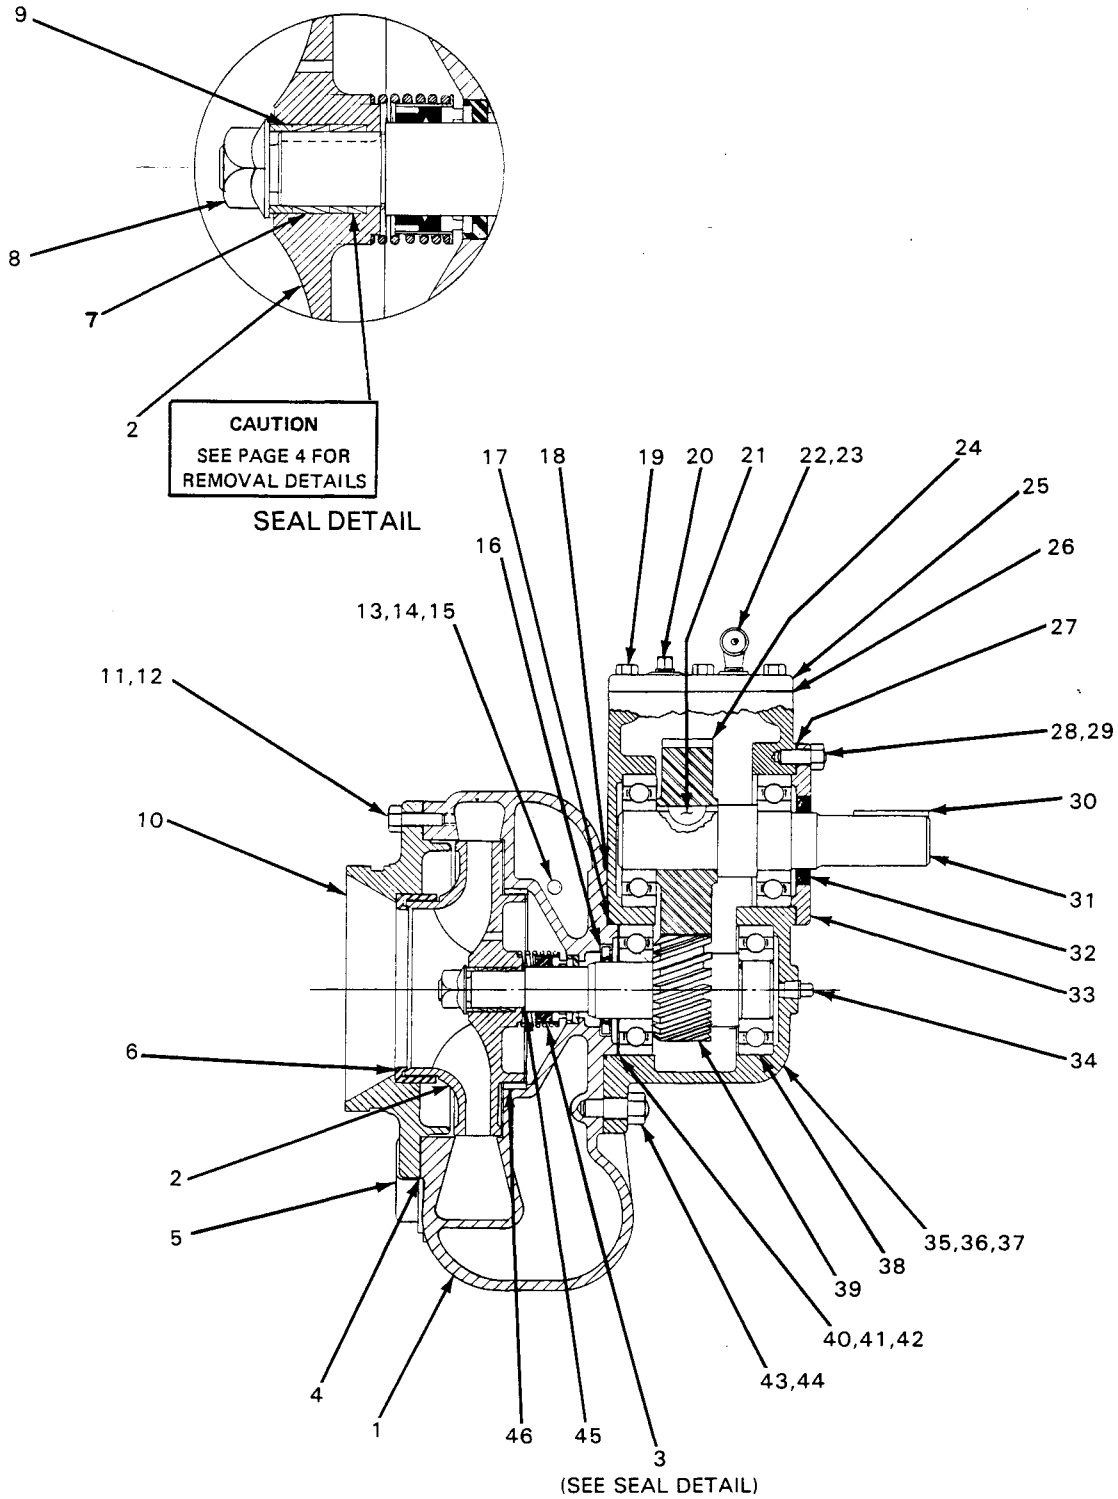

Figure 1. Pump Model 06C15-GA
This pump requires little service due to its rugged, minimum-maintenance design. If it becomes necessary to inspect or replace components, however, follow these instructions, which are keyed to the sectional view (see figure 1) and the accompanying parts list.
Reinstall the drive shaft bearing in the gearbox housing. Reinstall the drive gear key, and position the drive gear so that it engages the pinion shaft gear. Install the drive shaft and bearing. Inspect the oil seal (32) and replace as necessary. Reinstall the oil seal in the bearing cap, positioning the lip as shown in figure 1, replace the bearing cap gasket (27), and secure the bearing cap to the gearbox housing.
Replace the bearing shims. After final reassembly, shaft end play should fall between .005 to .012 inches; add or remove bearing shims to reach this recommended tolerance. Inspect the oil seal, and replace as necessary. Reinstall the oil seal in the volute housing, positioning the lip as shown in figure 1.